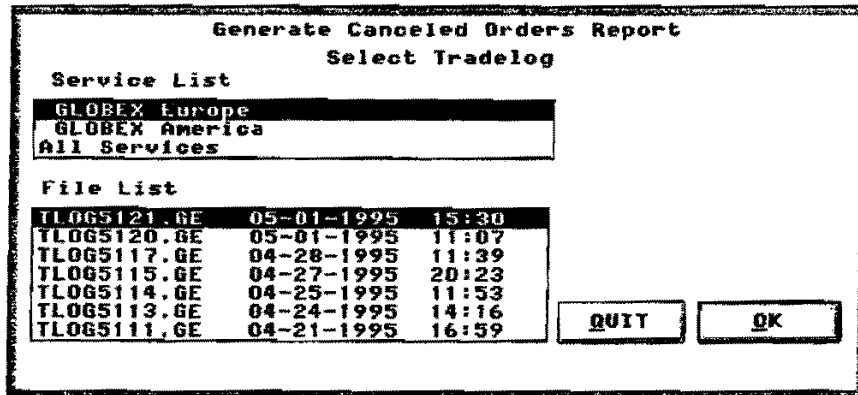

Figure 12.16 Generate Canceled Orders Report Dialog Box
1. Select **Canceled Orders** in the Reports menu to display the dialog box shown in Figure 12.16. The highest priority Service is selected, as is the most recent of up to seven tradelog files displayed in the list. (Tradelog filenames are explained in Section 12.4.2.)